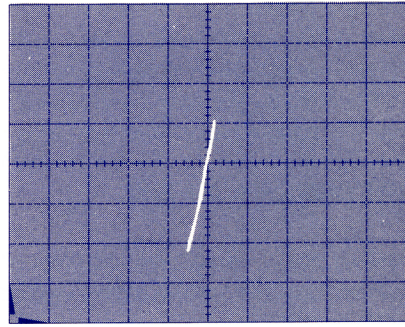

Figure 6-1. Peak on-state voltage V_{TM} . Upper end of elongated spot has just crossed 5A point.
- 3) Apply power to device — Position LEFT-RIGHT switch on 177 to appropriate side. *Slowly* increase VARIABLE COLLECTOR % supply until specified current is attained. [5 divs vertical]. See Figure 6-1. 34 8